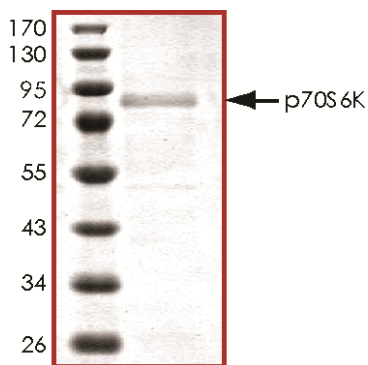

Figure 1: SDS-PAGE and Coomassie stain. The approximate molecular weight is 76 kDa and the purity is > 85%.
- Molecular Mass** ♦ The approximate molecular weight is 76 kDa (see Figure 1 below).
- Purity** ♦ The purity was determined to be > 85% by densitometry (see Figure 1 below).